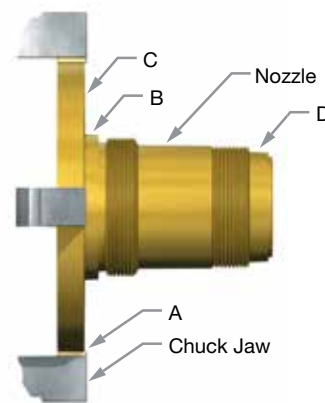

Figure 24: Nozzle Positioned in a Jaw
1. Remove the nozzle (2) from the valve to be remachined. If it cannot be removed from the base (1), re-machine it inside the base.
2. Set-up the lathe and nozzle (2) as follows:
- Grip the nozzle in a four-jaw independent chuck (or collet, if appropriate) using a piece of soft material such as copper or fiber between the jaws and the nozzle (see Figure 24).
B, C, and D run true within .001" (.025 mm) on the total indicator reading (see Figure 24).